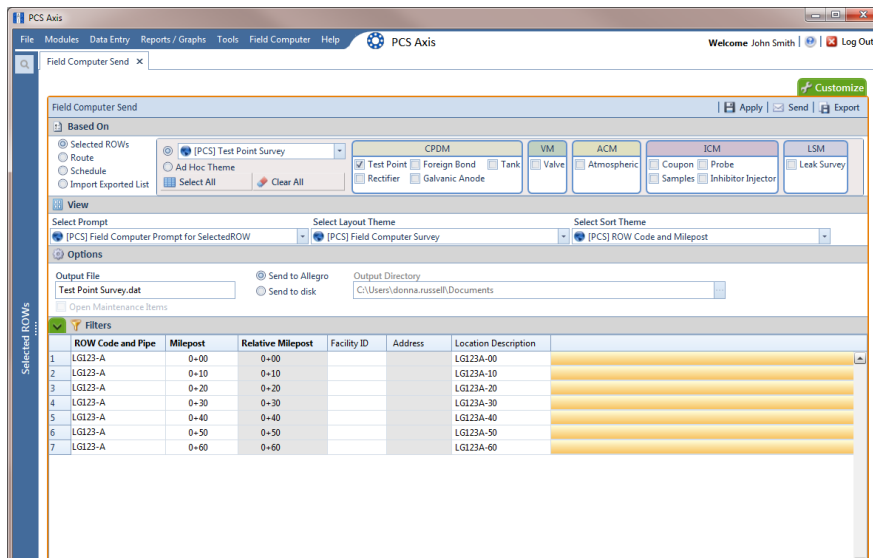

Figure 13-25. Field Computer Send Based on Selected ROWs
- a Click the **Selected ROWs** option (Figure 13-25).